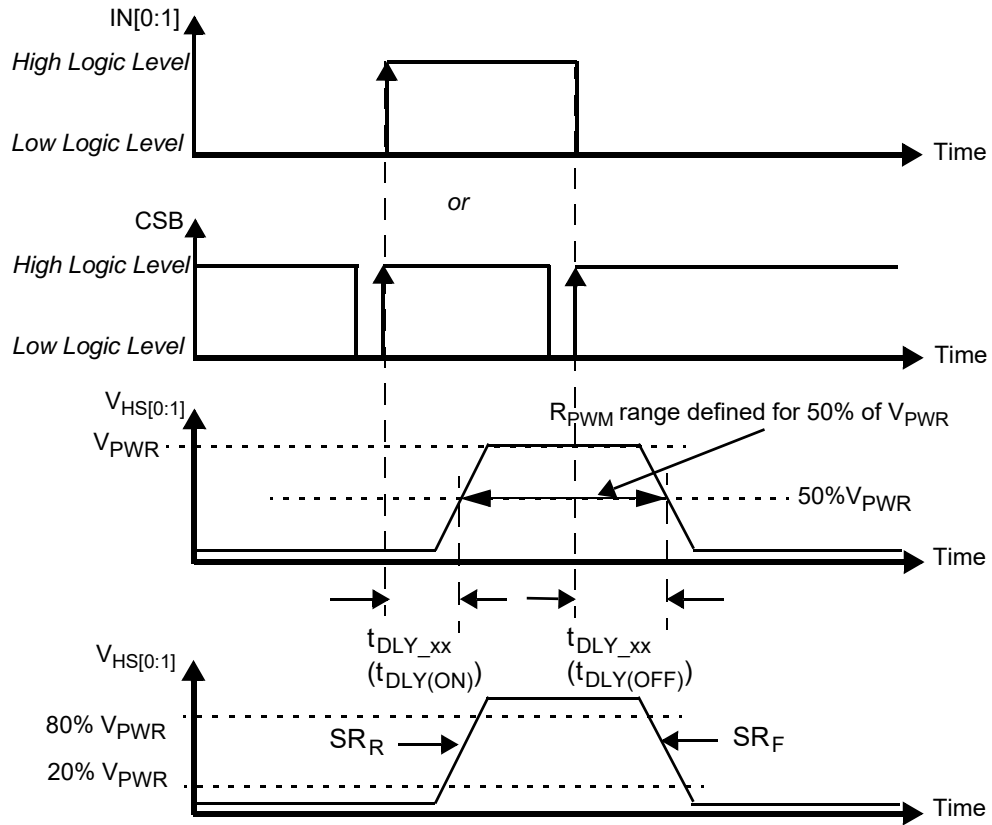
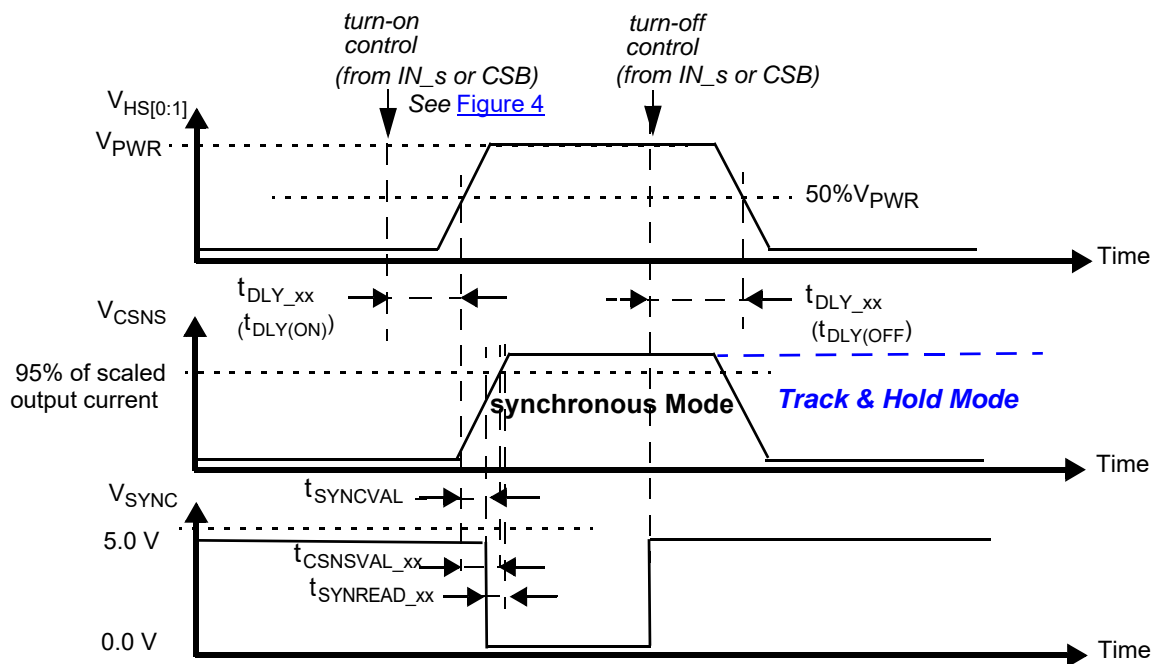

Figure 4. Output voltage slew rate and delay
Figure 9. Synchronous and Track & Hold current sensing modes: associated delay and settling times
30. Rising and Falling edge slew rates specified for a 20 to 80% voltage variation on a  $10\ \Omega$  resistive load (see Figure 4).
32. Time required to switch off the channel after detection of overtemperature (OT), overcurrent (OC), SC or UV error (time measured between start of the negative edge on the FSB pin and the falling edge on the output voltage until  $V(\text{HS}[0:1]) = 50\%$  of  $V_{PWR}$ ).
33. Settling time ( $= t_{\text{CSNSVAL\_xx}}$ ), SYNC output signal delay ( $= t_{\text{SYNCVAL\_xx}}$ ) and Read-out delay ( $= t_{\text{SYNREAD\_xx}}$ ) are defined for a stepped load current ( $100\text{ mA} < I(\text{LOAD}) < I(\text{OCLX\_A\_FOR\_CSNS\_RATIO\_S} = 1)$ , AND  $300\text{ mA} < I(\text{LOAD}) < I(\text{OCLX\_A\_0\_FOR\_CSNS\_RATIO\_S} = 0)$ ). (see Figure 9 and Output current monitoring \(CSNS\))
34. Settling time ( $= t_{\text{CSNSVAL\_xx}}$ ), SYNC output signal delay ( $= t_{\text{SYNCVAL\_xx}}$ ) and Read-out delay ( $= t_{\text{SYNREAD\_xx}}$ ) are defined for a stepped load current ( $100\text{ mA} < I(\text{LOAD}) < I_{\text{OCLX A}}$  FOR  $\text{CSNS\_RATIO\_S} = 1$ , AND  $300\text{ mA} < I(\text{LOAD}) < I_{\text{OCLX A}_0}$  FOR  $\text{CSNS\_RATIO\_S} = 0$ ). (see Figure 9 and Output current monitoring \(CSNS\))
The CS pin allows independent current monitoring of channel 0 or channel 1 up to the steady-state overcurrent threshold. It can also be used to sense the device temperature. The different functions are selected by setting bits CSNS1\_en and CSNS0\_en to the appropriate value (Table 23). When the CSNS pin is sensed during switch-off in the (optional) track & hold mode (see Figure 9), it outputs the scaled value of the load current as it was just before turn-Off. When several devices share the same pull-down resistor, the CSNS pins of devices, the current of which is not monitored, must be tri-stated. This is accomplished by setting CSNS0\_en = 0 and CSNS1\_en = 0 in their GCR register (Table 12). Settling time ( $t_{CSNSVAL\_XX}$ ) is defined as the time between the instant at the middle of the output voltage’s rising edge ( $HS[0:1] = 50\%$  of  $V_{PWR}$ ), and the instant at which the voltage on the CSNS pin has settled to  $\pm 5.0\%$  of its final value. Anytime an overcurrent window is active, the CSNS pin is disabled (see Overcurrent detection on resistive and inductive loads). The current and temperature sensing functions are unavailable in Fail-safe mode and in Normal mode when operating without the  $V_{DD}$  supply voltage. In order to generate a voltage output, this pin requires a pull-down resistor ( $R(CSNS)=1.0\text{ k}\Omega$  typ. and  $470 < R(CSNS) < 10\text{ k}$ ). When the current sense resistor connected to the CSNS pin is disconnected, the CSNS voltage is clamped to  $V_{CL(CSNS)}$ . The CSNS pin can source currents up to about 5.6 mA.
To synchronize current sensing with an external process, the SYNC signal can be connected to a digital input of an external MCU. An open-drain pull-down on SYNC indicates that the current sense signal is accurate and ready to be read. The current sense signal on the CSNS pin has the specified accuracy  $t_{SYNCREAD\_XX}$  seconds after the falling edge on the SYNC pin (Figure 9) and remains valid until a rising edge is generated. The rising edge that is generated by the SYNC pin at the turn-OFF instant (internal or external) may also be used to implement synchronization with the external MCU. Parameter  $t_{SYNCVAL\_XX}$  is defined as the time between the instant at the middle of the output voltage rising edge ( $HS[0:1] = 50\%$  of  $V_{PWR}$ ), and the instant at which the voltage on the SYNC-pin drops below 0.4 V ( $V_{SOL}$ ). The SYNC pins of different devices can be connected together to save micro-controller input channels. However, in this configuration, the CSNS of only one device should be active at a time. Otherwise, the MCU is not be able to determine the source of the SYNC signal. The SYNC pin requires an external pull-up resistor to  $V_{DD}$ .